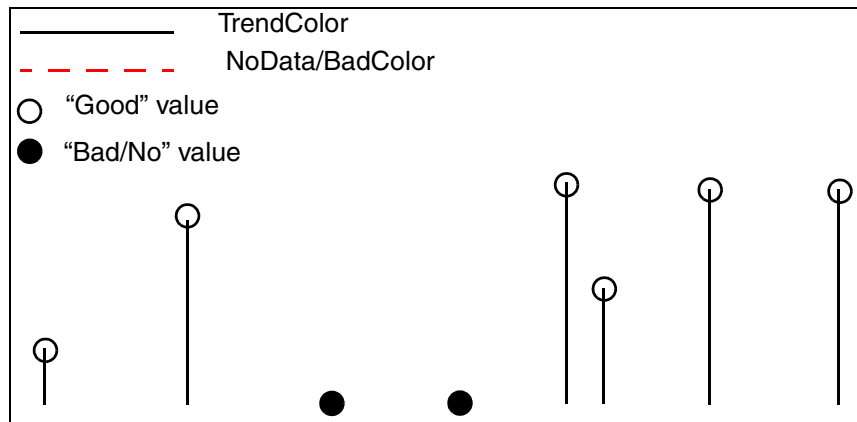

Figure 102. Curve Drawn in Poles or Curve_Bar Mode
- *curve_bar & poles* - These are the same because of backwards compatibility. Values are not connected, but shown as vertical poles drawn from zero to the current value, drawn with the specified line width, Figure 102.